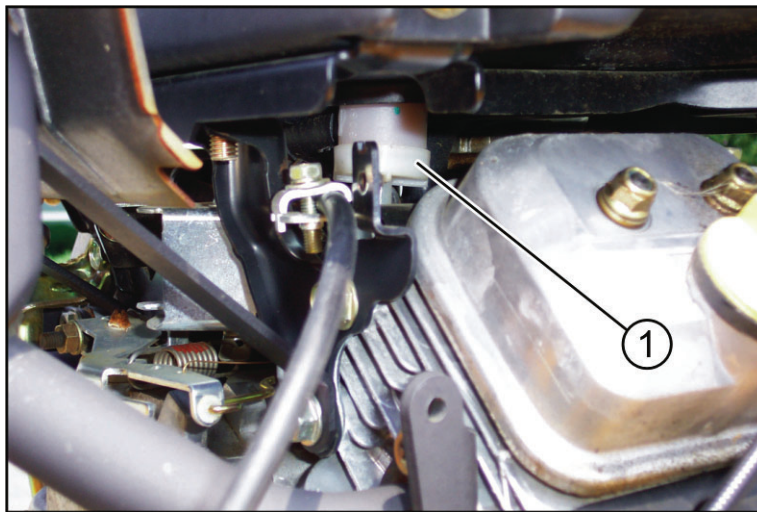

Figure 5-4
4. Replace the inline fuel filter (1, Figure 5-4) every season. To do this, empty the fuel tank and carefully lift up the tank from the top of the engine by removing the four hex-head bolts, two on each end of the tank.